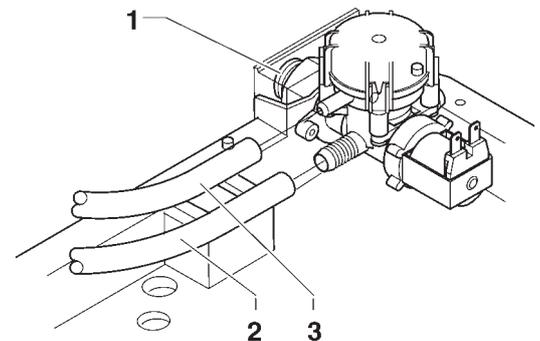

Fig. 15
To energize the system with the open door, simply insert the special yellow key into the slot (see Fig. 15).
Use a hose (also available as a kit) capable of withstanding the water mains pressure and suitable for use with foodstuff (min. inside diameter of 6 mm) to connect the water supply to the union (3/4" gas) of the water inlet solenoid valve (see Fig. 15).
The water inlet solenoid valve (see Fig. 15) is equipped with an overflow device which mechanically stops the water inlet if there is a malfunction in the solenoid valve or in the boiler water level control device.
- loosen the connection which secures the solenoid valve supply hose to relieve the water mains residual pressure and then tighten it again (see Fig. 15);